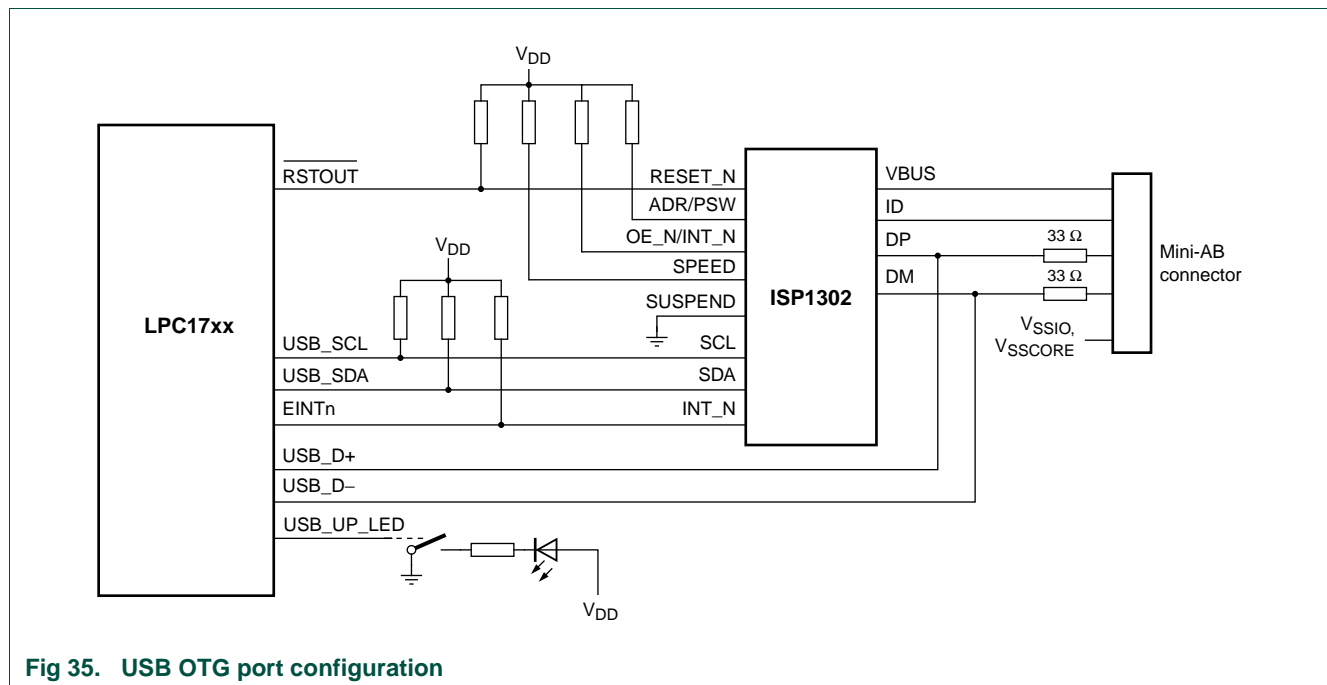

Fig 35. USB OTG port configuration
- Host mode (see Figure 35)
For OTG functionality an external OTG transceiver must be connected to the LPC17xx: Use the internal USB transceiver for USB signalling and use the external OTG transceiver for OTG functionality only (see Figure 35). This option uses the internal transceiver in VP/VM mode.